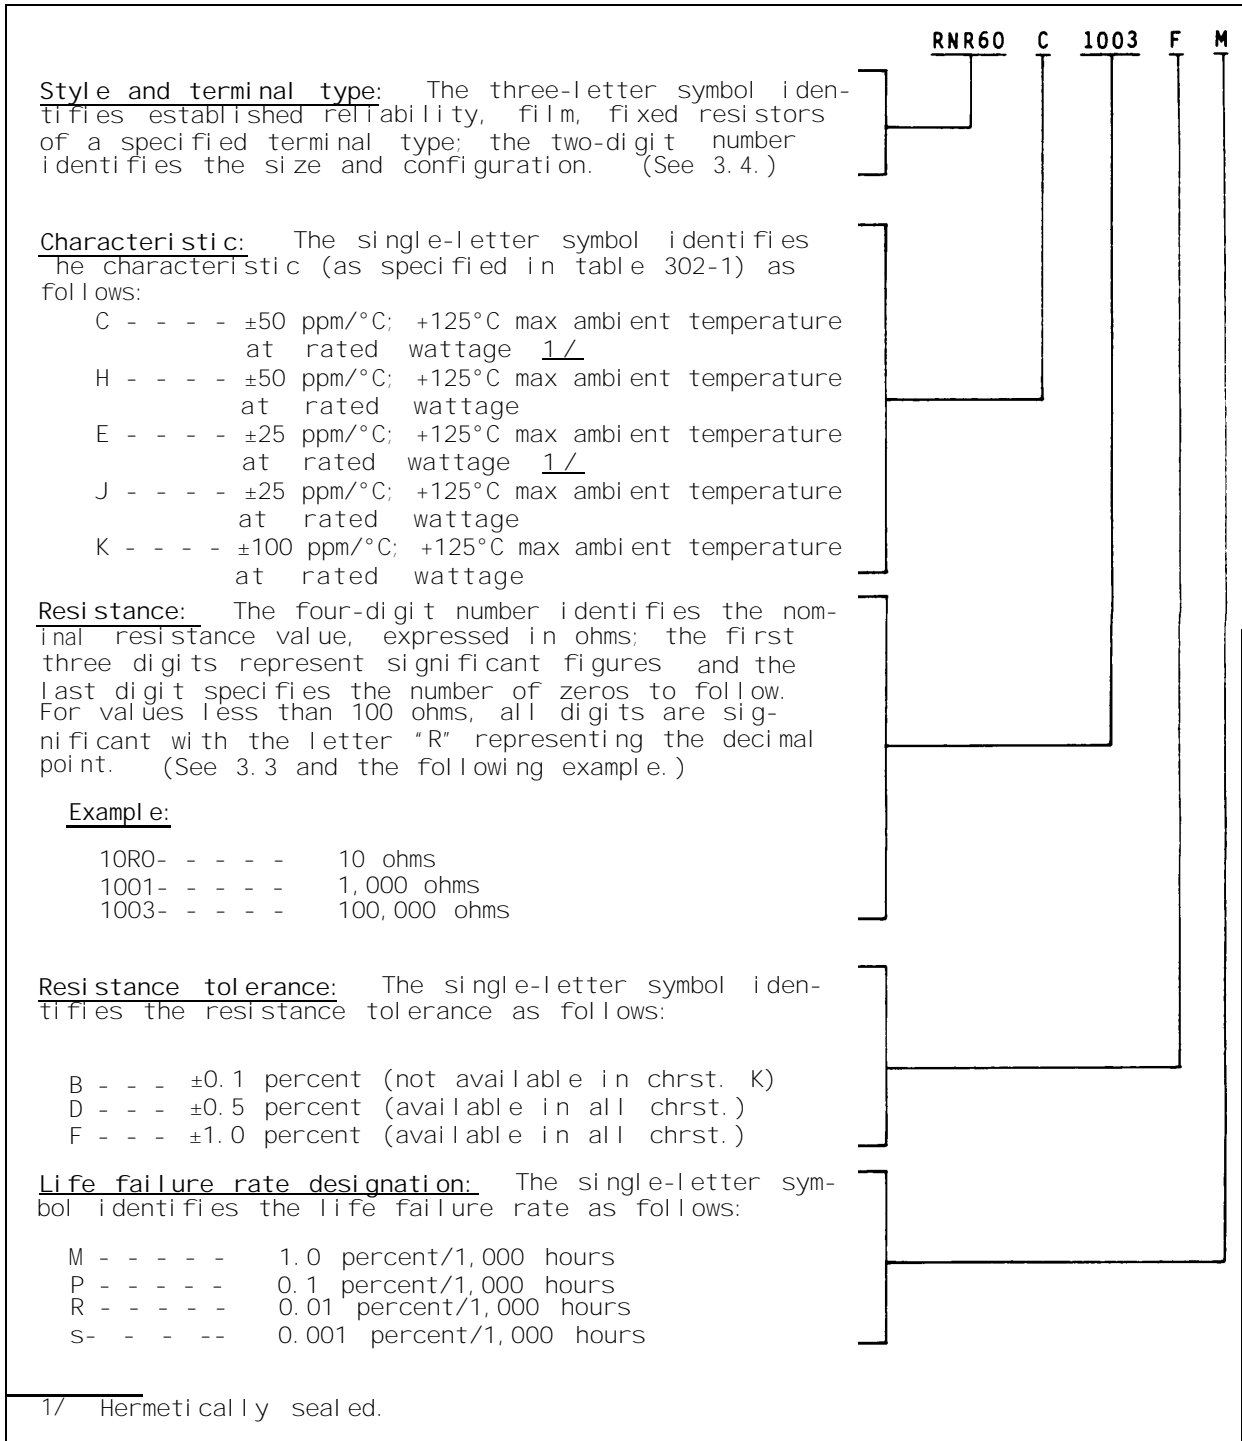

FIGURE 302-2. Type designation example for styles RNR50 through RNR70.
3. ITEM IDENTIFICATION (see figures 302-2 through 302-4).
3.1 Type designation. The type designation is used for identifying and describing the resistor as shown on figure 302-2 or figure 302-3.